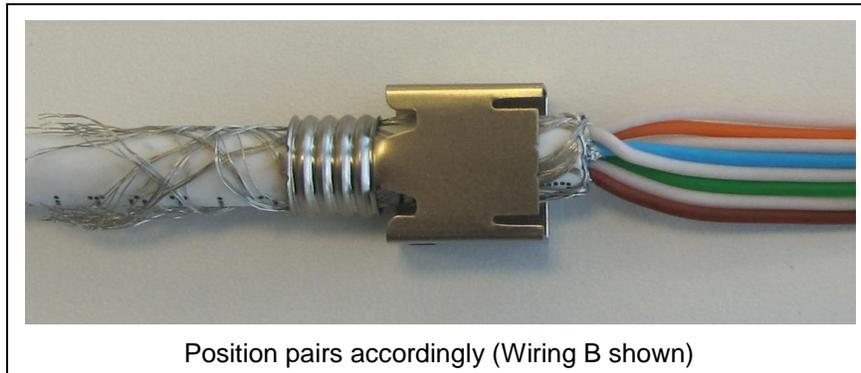

Figure 5. Cable Positioning
2. Position the pairs according to the preferred wiring diagram (T568B or T568A) Avoid twisting between pairs as much as possible. See Figure 5.